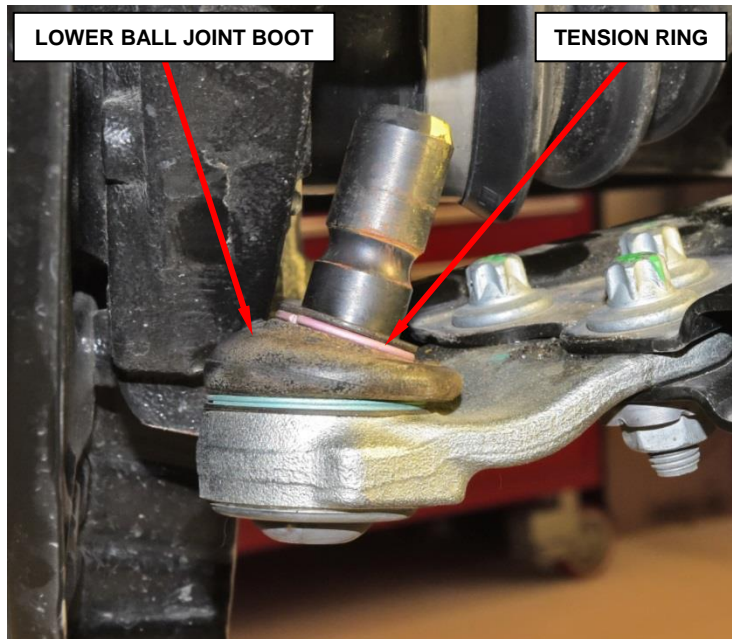

Figure 10 – Inspect Ball Joint Boot
11. Inspect the ball joint boot and the boot tension ring for damage (Figure 10).